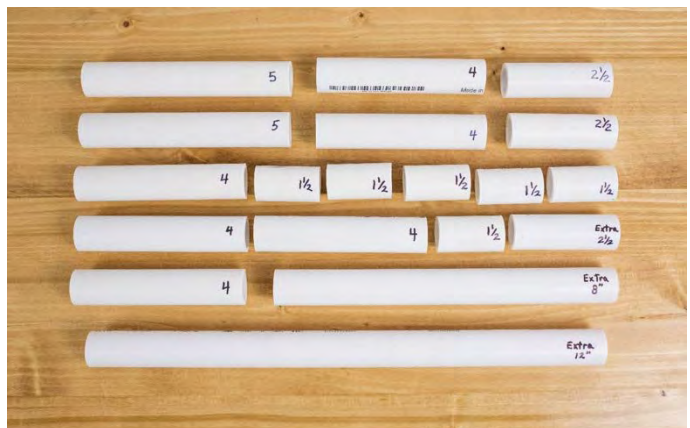

Figure 8
- Repeat until all sections have been cut. (Figure 8)